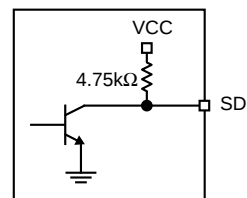

Figure 5. SD Output Structure
The SY88843V incorporates a chatter-free, SD open-collector TTL output with internal 4.75k Ω pull-up resistor as shown in Figure 5. SD is used to determine that the input amplitude large enough to be considered a valid input. SD asserts high if the input amplitude rises above the threshold set by SDLVL and de-asserts low otherwise. SD can be fed back to the enable (EN) input to maintain output stability under a loss-of-signal condition. EN de-asserts low the true output signal without removing the input signals. Typically, 4.6dB SD hysteresis is provided to prevent chattering.